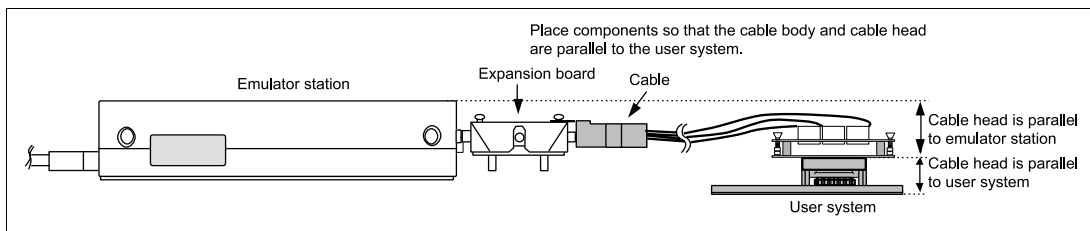

Figure 10 User System Interface Cable Location Example
4. While the emulator station is connected to the user system with the user system interface cable, force must not be applied to the cable head. Position the emulator station, user system interface cable, and user system as shown in figure 10.